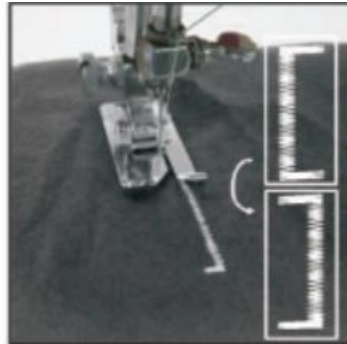

Fig.20
5. Raise the presser foot, rotating the cloth for 180° degrees (Fig.20).